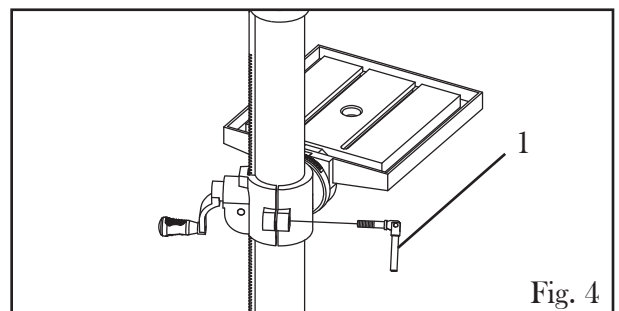

Fig. 4
4. Screw the table locking handle into position (Fig. 4 - 1). Tightening this handle prevents the table from swivelling and having its height adjusted.